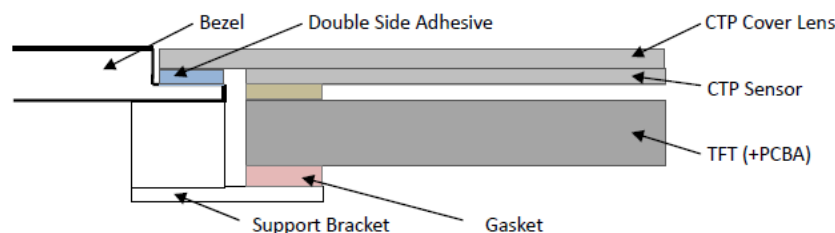

Figure 2
Active area is divided into 9 measuring areas (Refer Fig. 2). Every measuring point is placed at the center of each measuring area.
7.2 Surface Mounting (Figure 2)
7.2 嵌入安装（附图2）